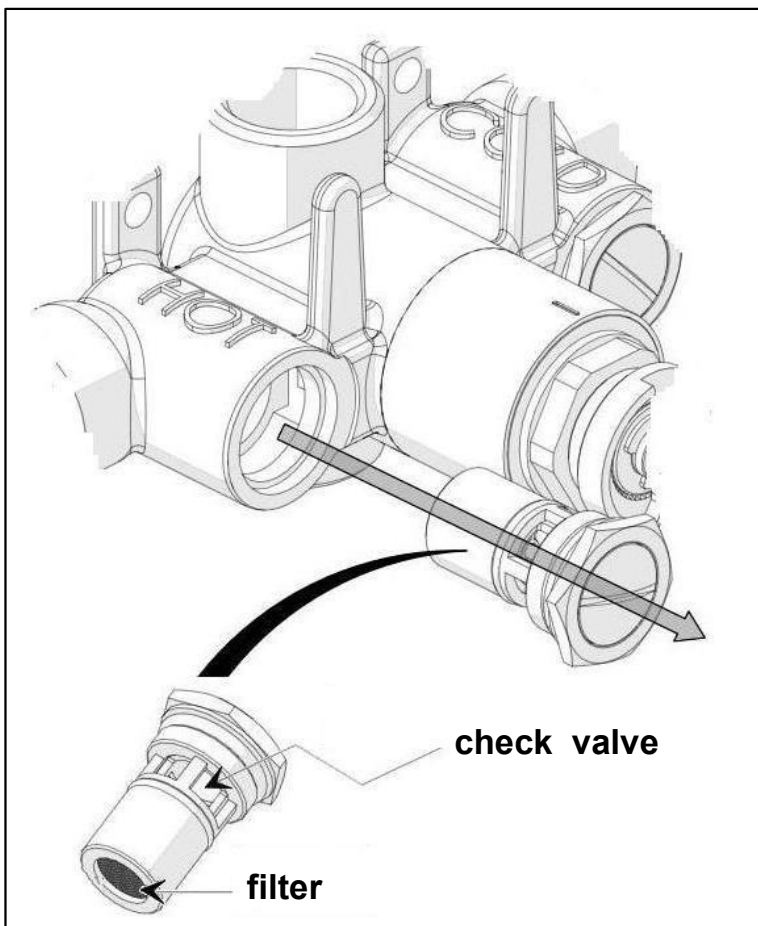

Fig. 6
- 5) Clean filter under running water or leave it 12 hours in vinegar in the case of limescale (Fig.6)